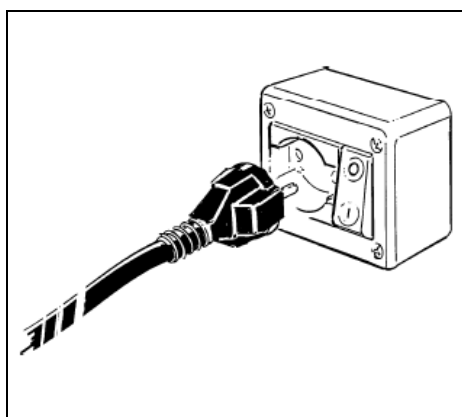

Fig. 10
- Plug the machine to the electric supply (fig.10).